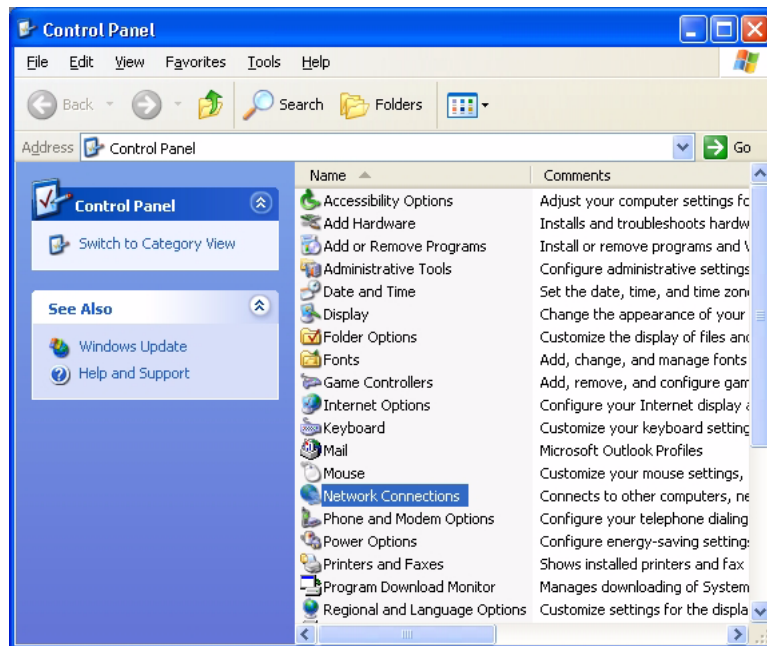

Figure 2-17. Control Panel
11. If a connection needs to be manually set up or modified, you can right click on the connection name in the Network Connections window (Figure 2-17) and select Properties from the pop-up dialog box.